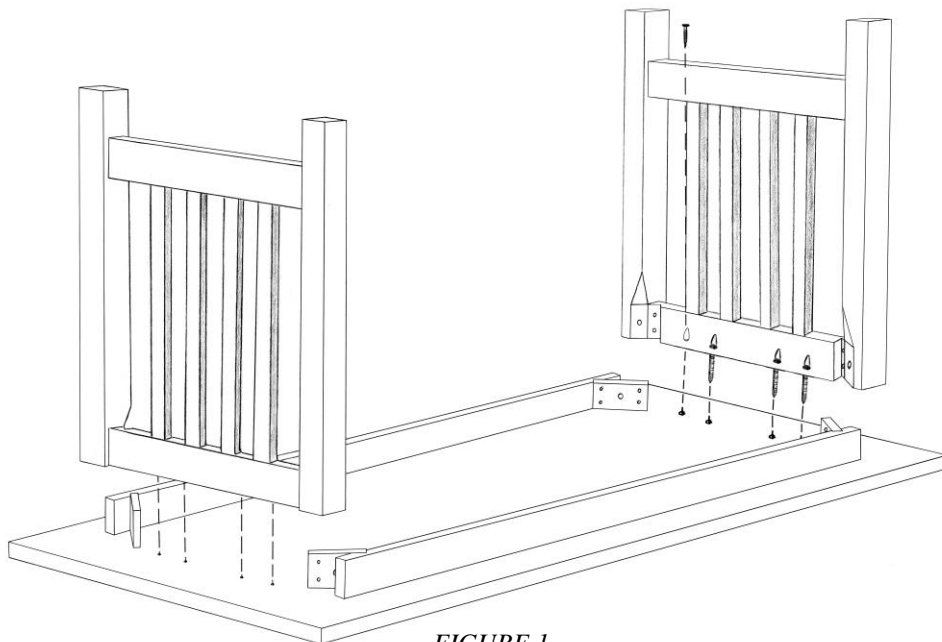

FIGURE 1
- 2) PLACE THE NOTCHES IN THE LEG ASSEMBLIES AGAINST THE CORNER BLOCKS THAT PROTRUDE FROM THE SKIRT BOARDS ATTACHED TO THE TABLE (SEE *FIGURE 1*).
- 5) ATTACH THE LEG ASSEMBLIES TO THE BOTTOM OF THE TABLE TOP THROUGH THE POCKET HOLES USING THE OTHER **8 - 1 1/4" SCREWS** (SEE *FIGURE 1*).